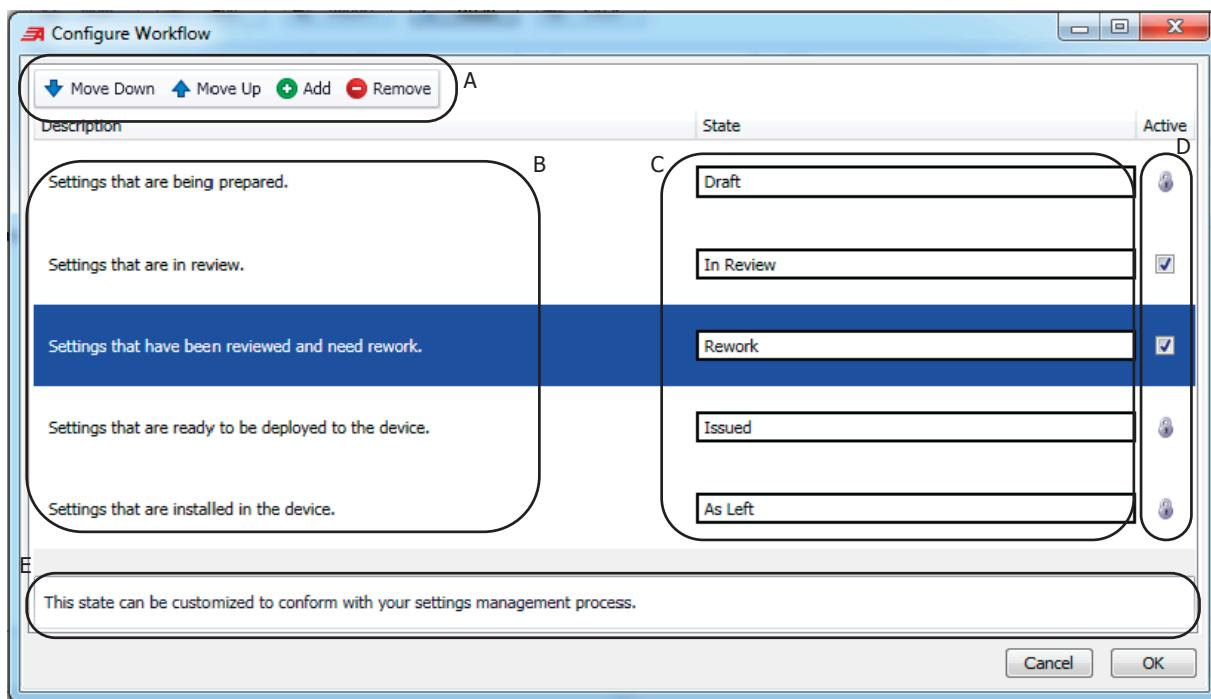

Figure 4.30 Configure Workflow
- B. **State:** The states are defined in the **Configure Workflow** window (*Figure 4.30*). The **State** option is the state that the settings version will be in when you click **OK** in the **Create Version** window.
- **State:** The **State** field shows the Workflow states that are set up in the **Configure Workflow** window (*Figure 4.30*). To assign a version number, click the **Edit** button in the lower right corner of the **Settings** view and then click the state field to be changed.